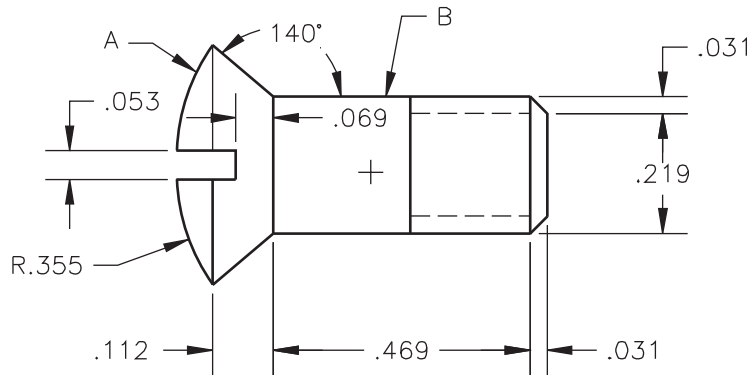

Fig. 31-8
3. What information does AutoCAD list for arc **A** on the screw shown in Fig. 31-8?
5. On the screw shown in Fig. 31-8, divide line **B** into five equal parts. Make the points visible.
6. On arc **A** in Fig. 31-8, place markers along the arc at intervals of **.02** units. If the markers are invisible, make them visible.